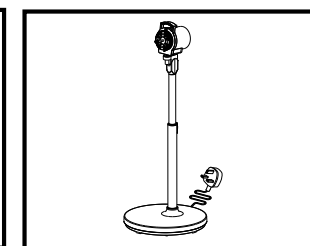

Figure 3
3. Place the assembled body upright (Figure 3).